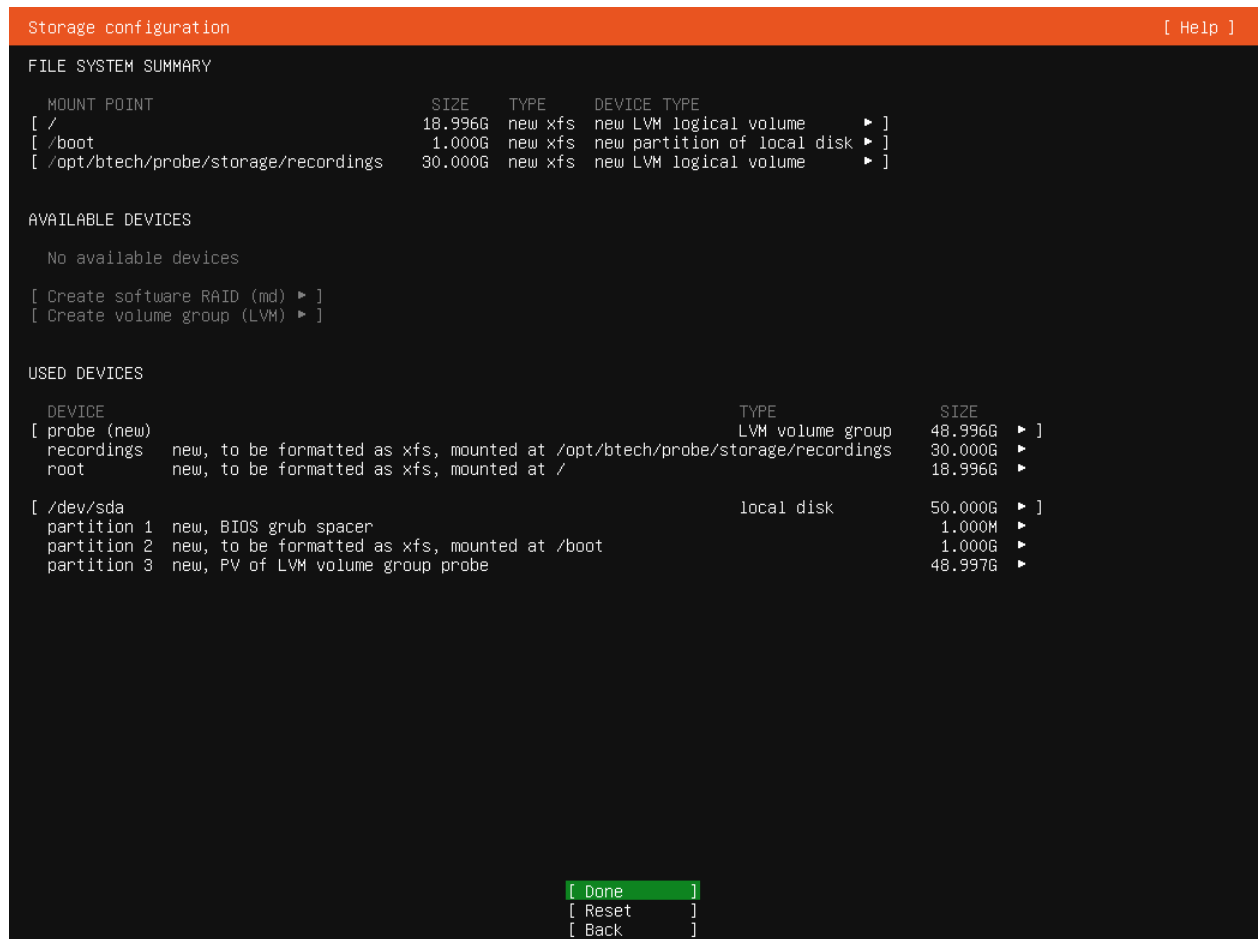

Figure 2.9: Finishing partitioning setup
- The storage configuration should look similar to figure 2.9. Accept it by selecting 'Done'. Confirm that you want to apply the changes by selecting 'Continue'.